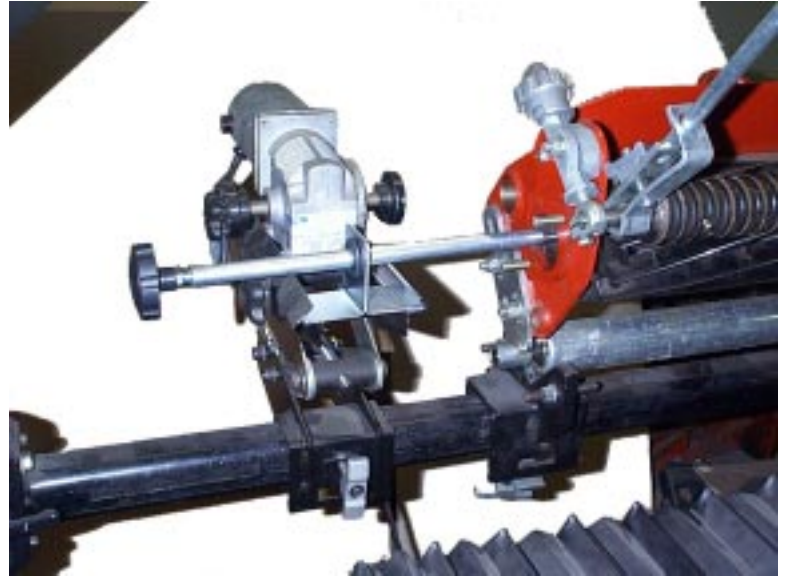

FIG. 62A
- A. Disconnect the spin drive coupling components from the reel and place in tool tray. Slide the spin motor back and attach the manual indexer. See FIG 62A.